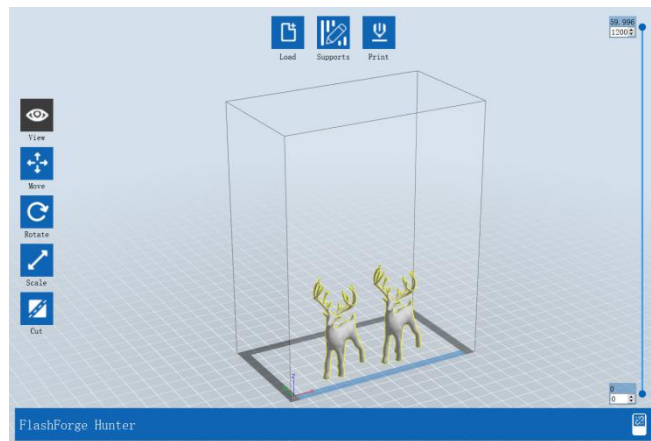

Figure 26 X Side
- X Side : After selecting [X Side] placement rule, the loaded model is automatically placed close to the X-side, as shown in Figure 26.